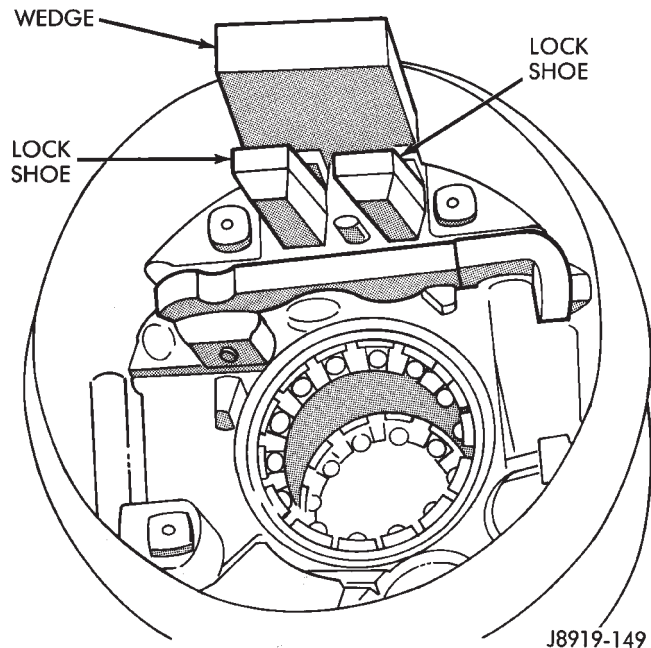

Fig. 13 Wedge Between Lock Shoes & Housing
(32) Remove the lock bolt, the lock rack, the rack preload spring and the remote rod from the cylinder housing.
(33) Insert a wedge between the lock shoes and the key/lock cylinder housing (Fig. 13). This will relieve spring tension on the tilt-release lever pin and lock shoe pin.